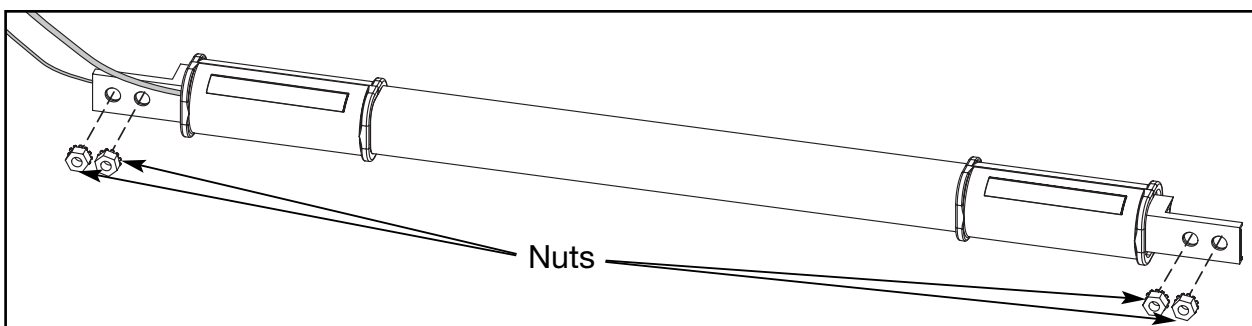

Figure 21
- B.** Using an open end wrench remove the four nuts that hold the handrail assembly to the treadmill. See Figure 21.
- B. Use an open end wrench to attach the four nuts that hold the handrail assembly to the treadmill. See Figure 21.